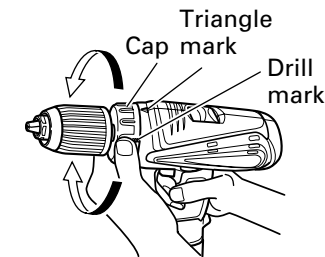

Fig. 15
7. Confirm the cap position (See Fig. 15)
(2) Tightening torque indication (See Fig. 15)
(3) Adjusting the tightening torque (See Fig. 15)